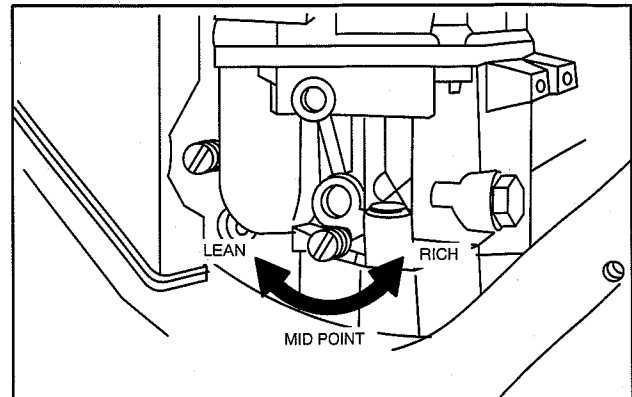

Fig. 123 - Adjusting Idle Mixture
7. Turn valve to mid point between rich and lean, Fig. 123.